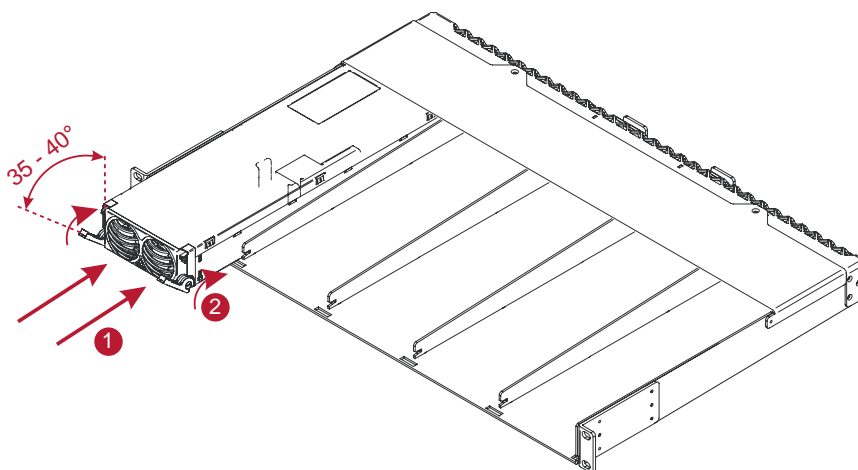

Figure 4-16 Rectifier Installation
Fasten the temperature sensor in the middle of the battery bank, Figure 4-16.
2. Slide the rectifier module into the slot until it contacts the interface connection at the rear of the shelf, Figure 4-16 1.
3. Fully insert the rectifier by pushing the handle towards the shelf. The rectifier handle will rise up and lock the rectifier into the position, Figure 4-16 2.